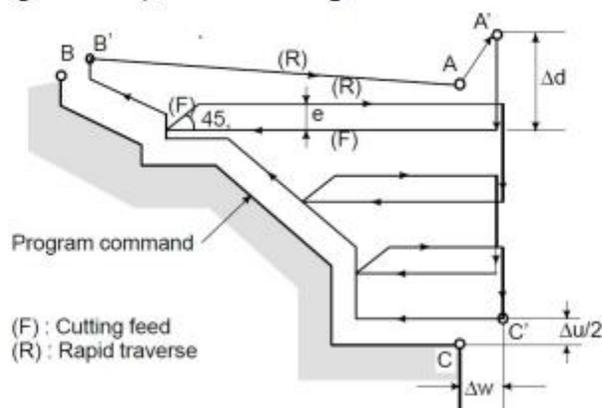

Fig3.9.1 Cutting Path in Axial Roughing Turning Cycle
**Execution process:(reference as Fig3.9.1)**
- ① Rapid traverse from A point to A' point , the travel in X direction is  $\Delta u$ , and the travel in Z direction is  $\Delta w$ ;
- ② The travel in X direction from A' point is  $\Delta d$ ( tool infeed), ns block is for tool infeed at